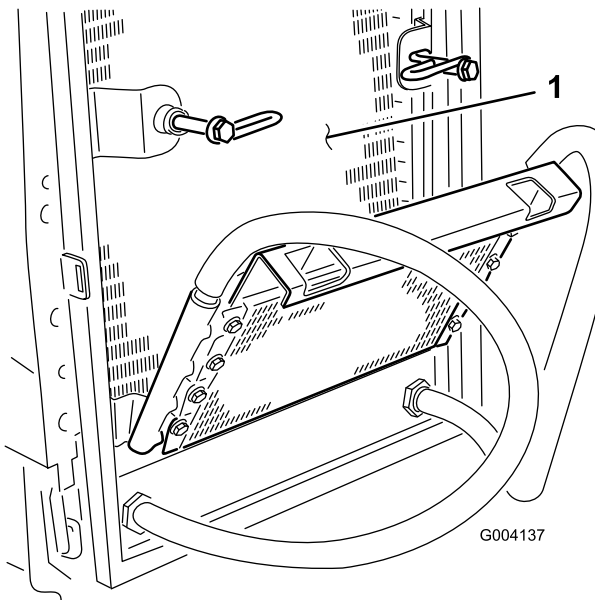

Figure 51
6. Thoroughly clean both sides of the oil cooler and the radiator (Figure 51) with compressed air.